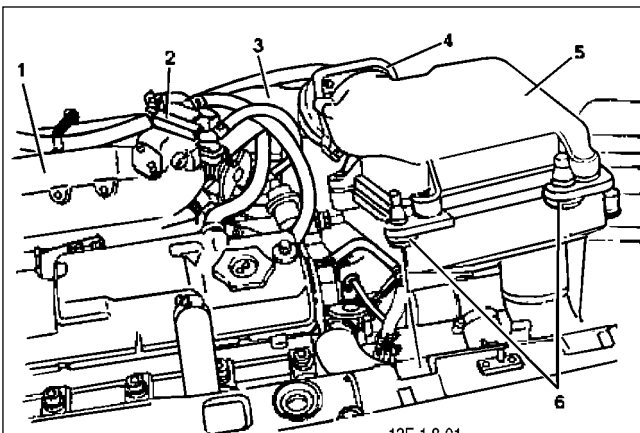
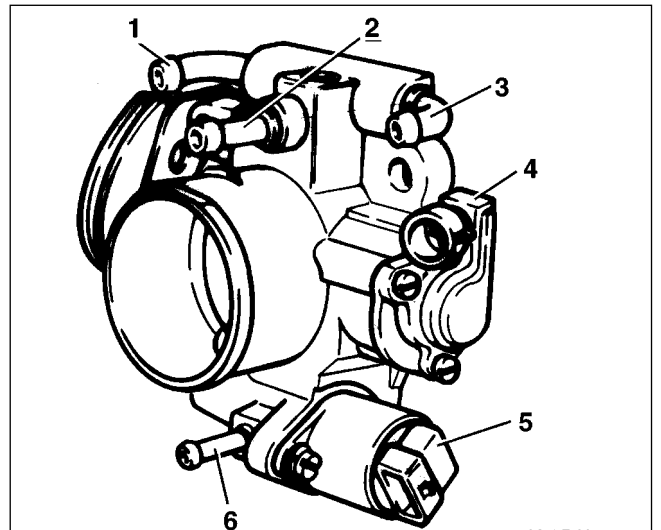

Fig. 1.8-01. Air Induction System (air cleaner elevated):
Fig. 1.8-02. Throttle Body Assembly:
The air cleaner is mounted in the front part of the underhood on the rubber supports (6) (Fig. 1.8-01). The air cleaner has a paper filter element with large filtering surface.
The throttle body unit (Fig. 1.8-02) in the multipoint fuel injection system is mounted on the intake plenum (1) (Fig. 1.8-01). It meters the amount of air drawn into the intake manifold. Air intake to the engine is controlled by the throttle plate linked to the accelerator pedal.
The throttle body unit contains the throttle position (TP) sensor and the idle air control (IAC) valve. Vacuum ports located behind the throttle plate provide the vacuum needed by the crankcase ventilation system at idle (2) (Fig. 1.8-02) and the EVAP canister (6) (Fig. 1.8-02).